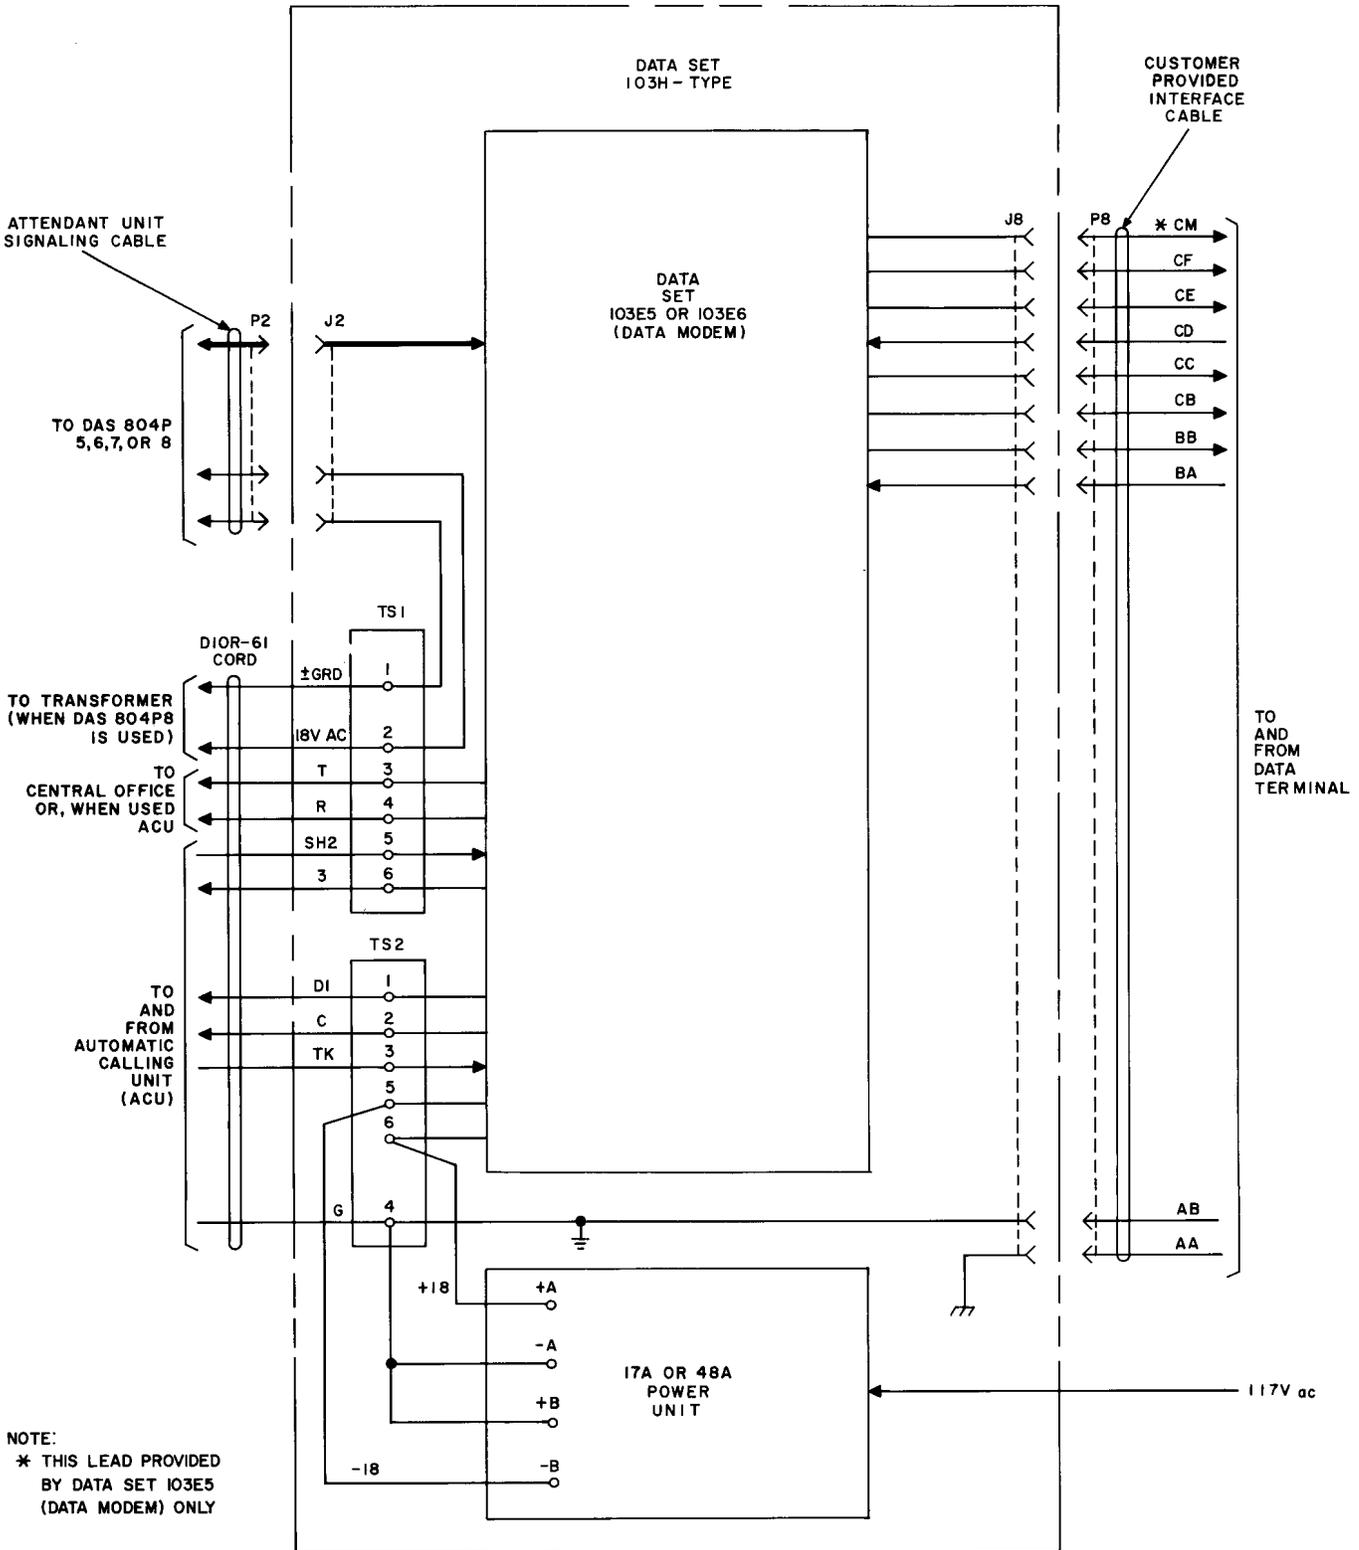

Fig. 3—Block Diagram of Data Set 103H-Type
3.02 The Data Set 103H-type interface leads (Fig. 3) to the data terminal are provided by the data modem. The interface leads which have designations beginning with A (ie, AA) are ground leads. The interface leads which have designations beginning with B (ie, BA) are data
3.03 The tip and ring of the transmission facility (Fig. 3) are connected directly to the data
3.05 When an optional ACU is used, its interface leads (see Fig. 3) are provided by the data modem and extended to the ACU via cord D10R-61. The designations, names, and functions of the ACU interface leads are given in Table D.